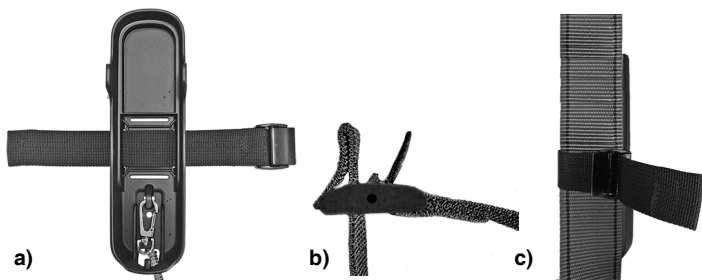

Figure 2: Attaching the mounting adapter
1. Guide the fastening strap through the two slots of the mounting adapter (Figure 2, **a**):
The end of the strap is sewn down to prevent the device from accidentally slipping out (Figure 2, **b**). When releasing the strap, press the sewn-down part against the strap and pull out of the buckle.
3. Tighten the fastening strap and close the buckle (Figure 2, **c**).